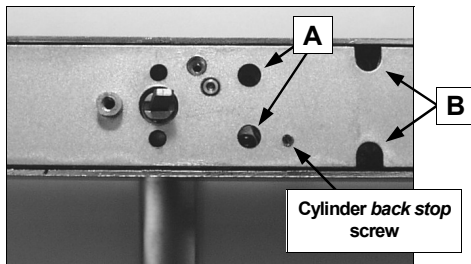

Fig. 1: Install Cylinder if not already installed at the factory
1. **Install Cylinder if not already installed at the factory.** Screws A & B (see Fig. 1) are correctly set at factory. If it is difficult to screw in the cylinder, loosen the two screws near the actuator (A) one turn. If you find the cylinder is still difficult to screw in, then loosen the other screws (B) one turn. **Do not loosen the screws all the way or it may be difficult to replace them properly!** **Note:** The trim is manufactured to use a 1-1/8" or 1 1/4" Alarm Lock mortise cylinder with a HW-1302 cam. If the cylinder that will be used is longer than 1 1/4", a collar must be utilized. Please see the collar information on the previous page.